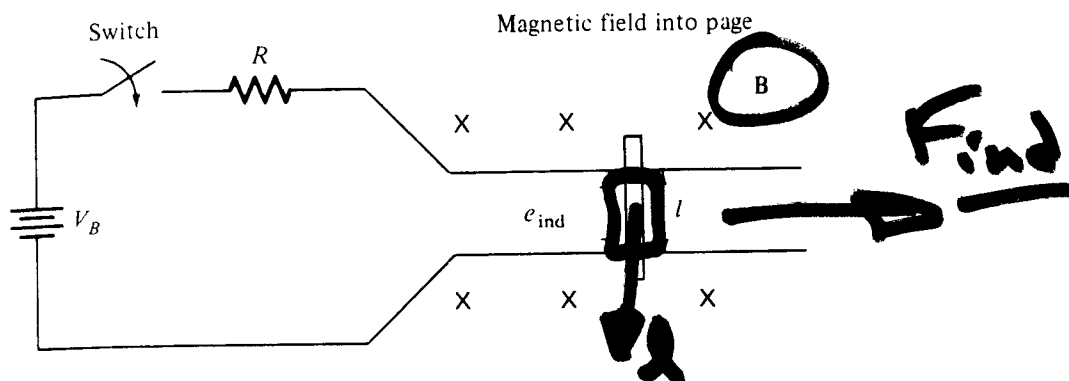

FIGURE 4-1
3. Kirchhoff's voltage law for this machine. From Fig. 4-1 this law gives